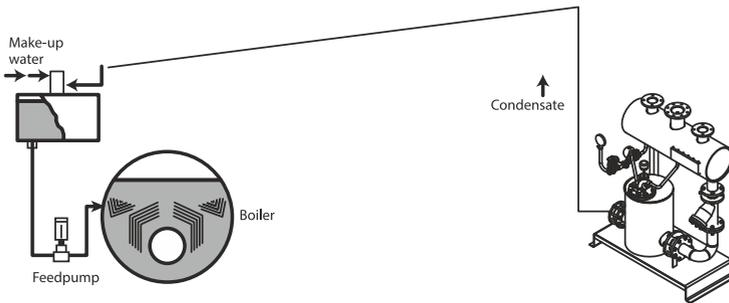

Figure 6 : Routing the condensate line to the Feed Water Tank
5.1 Care to be taken while routing the condensate pump discharge line: (Refer to Fig. 6)